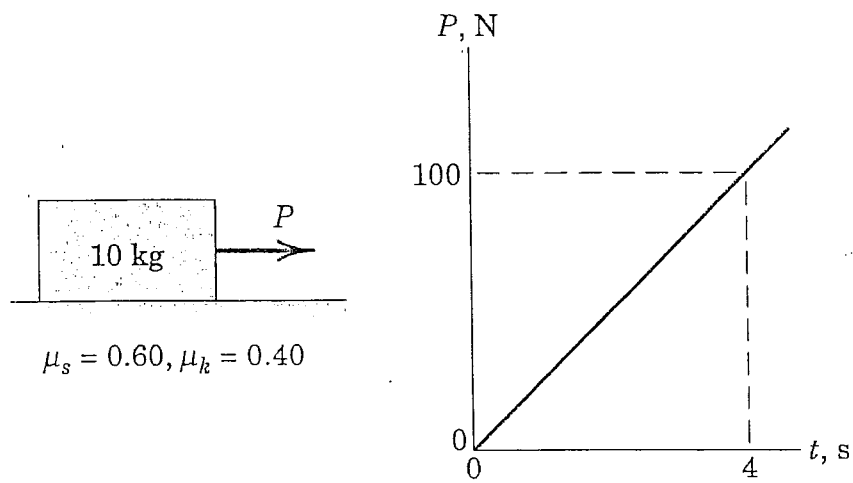

Fig. Q. 9
9. The force P , which is applied to the 10-kg block, initially at rest as shown in **Fig. Q. 9**, varies linearly with time as indicated. If the coefficients of static and kinetic friction between the block and the horizontal surface are 0.60 and 0.40, respectively, determine the velocity of the block when $t = 3.5$ sec. [8]